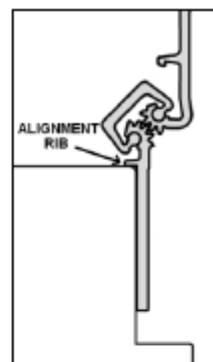

Fig. 1
1. With the hinge open, place the hinge frame leaf against the frame rabbet making certain that the alignment rib is flush against the frame face along its entire length. (See Fig. 1) Position the top of the hinge $1/16"$ ($1/8"$ maximum) below the header.